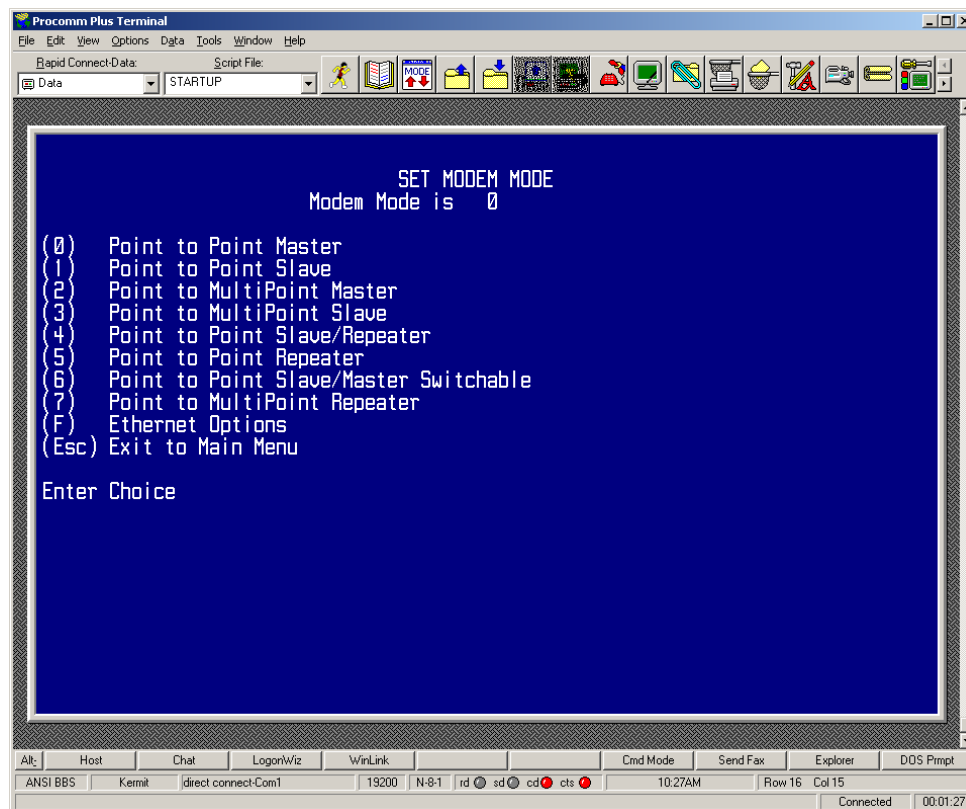

Figure 5-1: Operation Mode Menu
When item (0) is selected the Operation Mode Menu appears as shown in **Figure 5-1**. The Operation Mode option is used to designate the method in which the particular transceiver will be used. The Communicator II operates in a Master to Slave configuration; therefore, any transceivers that are intended to operate together must be set up as such. In a point-to-point setup, either the master or slave may be used on either end of the communications link without any performance degradation. One consideration when setting up the transceivers is that a number of parameters are controlled by the settings in the master; therefore, you may wish to deploy the master on the communications end where you will have easier access to the transceiver.